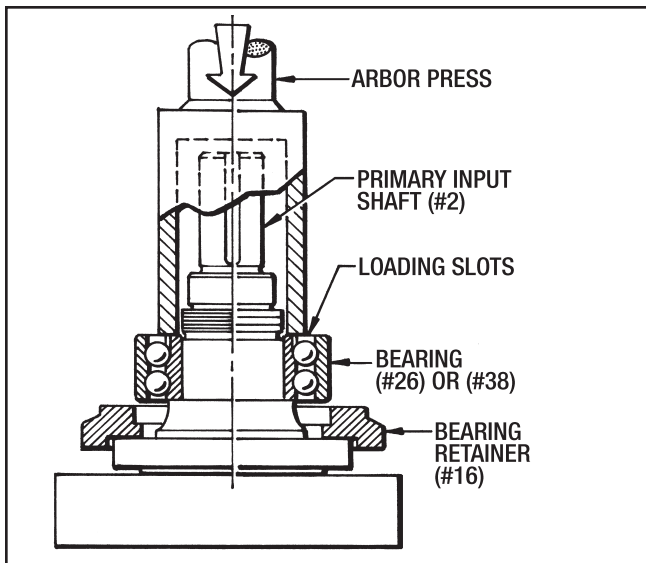

Figure 9.5 - Installing Outboard Bearing on Input Shaft
2. Press Bearing (#26) or (#38) onto the Primary Input Shaft (#2) (See Figure 9.5 for position of "Loading Slots"). Only press on the inner race of the bearing until it bottoms out on the Input Shaft shoulder.